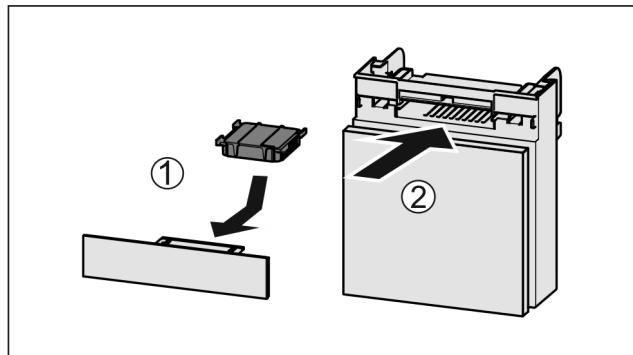

Fig. 102
- Insert the carbon filter as shown in the diagram Fig. 102 (1).
► Push the compartment in Fig. 102 (2).